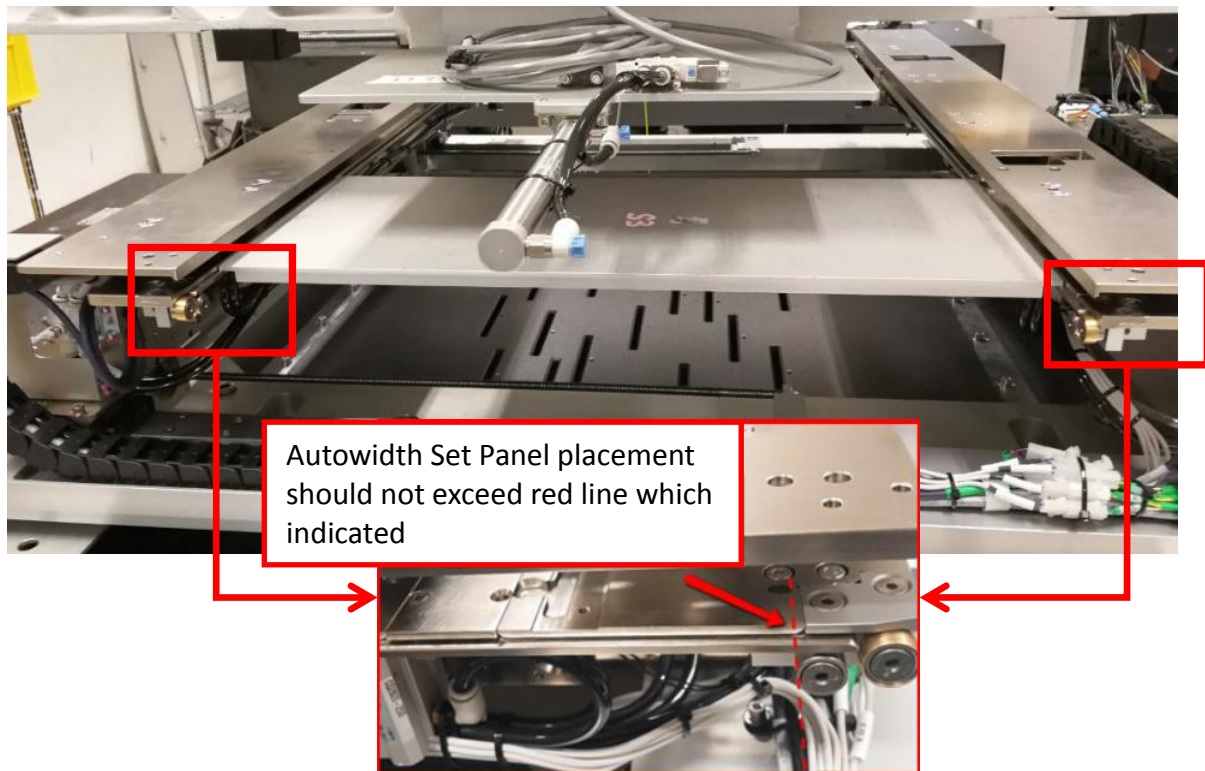

Figure 8 XXL Autowidth Set Panel (Left Side)
7. Place 2 pcs of XXL Auto Width Set Panel (4JACM-005) as below Figure 8. & 9. Manually push the Adjustable rail to allow both set panel fit in the desire width.